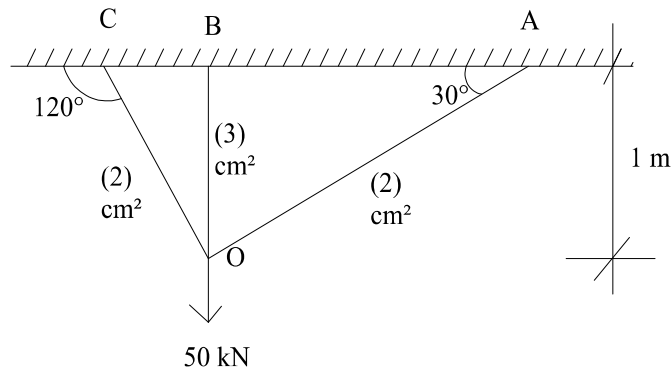

Fig.1
- Determine the forces in the members of the truss shown in Fig.1 by matrix stiffness method. Take $E = 200\text{GPa}$.